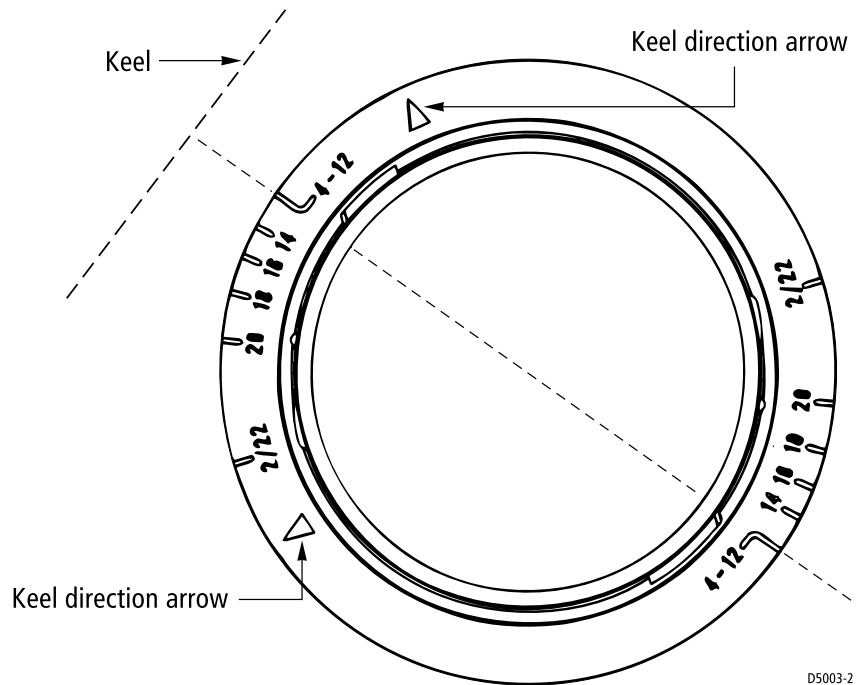

Figure 2-21: Aligning the Base Flange with 4–12° Deadrise Angle
- The numbers on the flange of the base represent deadrise angles. Identify the number that most closely corresponds to the deadrise angle of your hull. Find its match on the opposite side of the flange. Keeping the keel direction arrows on the side of the base nearest the keel, align the two raised marks indicating your deadrise angle with the guideline drawn on the hull (see Figure 2-21).